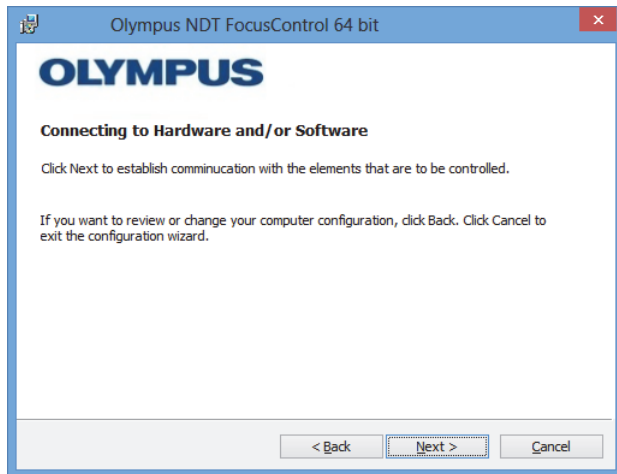

Figure 1-11 The Connecting to Hardware and/or Software page
- c) Click **Next** in the **Connecting to Hardware and/or Software** page to establish communication with FocusPC elements that are to be controlled (see Figure 1-11 on page 23).